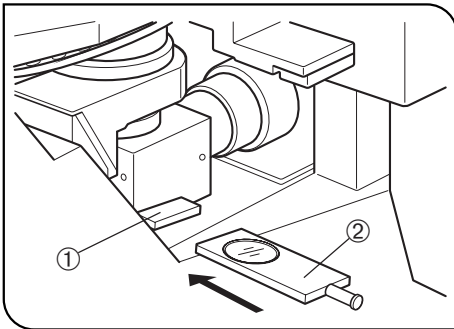

Fig. 26
2. Push in the analyzer ② to bring it into the light path. (Fig. 26)